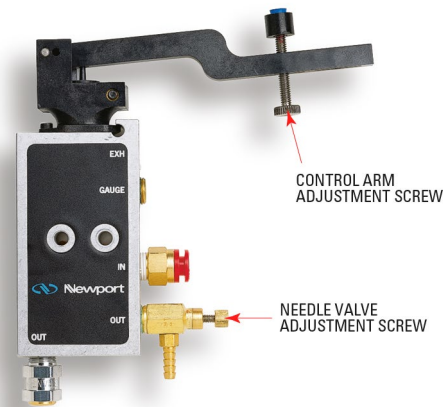

Figure 16: Leveling valve diagram.
8. Adjust the control arm adjustment screw of each valve (**Figure 16**) as required to obtain alignment. When all isolators are adjusted, re-check the level of the payload.
3. Be sure that the needle valves adjustment screws are not closed completely (see **Figure 16**).